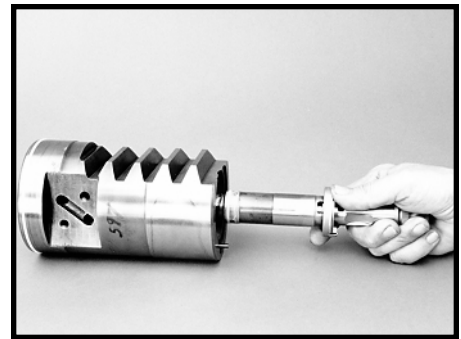

Figure 108
5. When the 10 minute compression time has elapsed, remove the compression tool from the worm shaft/input shaft assembly (16). Grease the worm shaft seal ring (18) and the sealing surface inside the rack piston (29). Install the worm shaft/input shaft assembly into the rack piston end that will position the worm seal ring in the rack bore and the worm ball track grooves to accept the set of balls through the rack piston ball guide holes. SEE FIGURE 108.